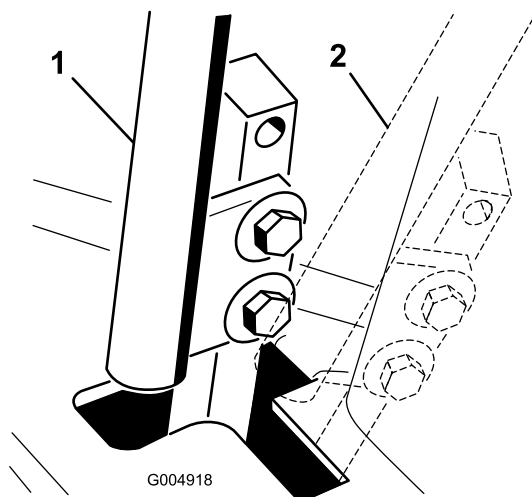

Figure 51
4. Move one of the levers to the neutral position but **not locked** (Figure 51).
6. Check where the control lever is relative to notch in console (Figure 51). It should be centered allowing lever to pivot outward to the neutral lock position.